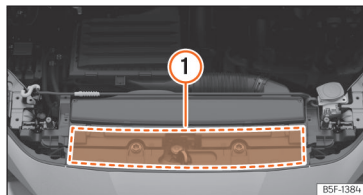

Fig. 232 In the engine compartment: area where the engine oil label is located
The label with the prescribed standard is located at the front of the engine compartment >>> **Fig. 232** (1). If you use the recommended engine oil, you can top up the oil as often as necessary.